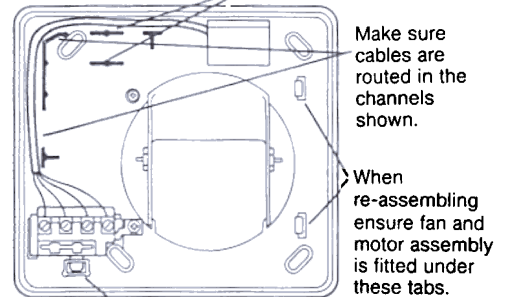

Fig. 5
Make the electrical connections to the terminal block, after releasing it from the backplate (see Section 4 and Fig 5).
**7.6** Make the electrical connections to the terminal block after releasing it from the backplate (see Section 4 and Fig. 5).
**8.6** Make the electrical connections to the terminal block after releasing it from the backplate (see Section 4 and Fig. 5).
**9.8** Fit the mains cable through the hole in the fan case and make connections to the terminal block after releasing it from the backplate (see Section 4 and Fig. 5).